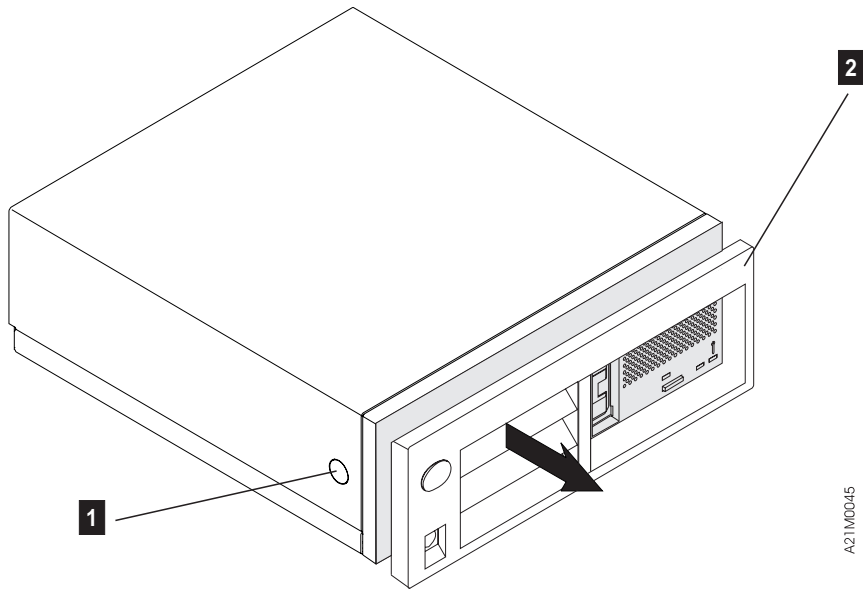

Figure 12. Removing the Front Cover from Model B00
- a. See Figure 12 on page 26. Remove front cover of the unit **2** by depressing the tabs **1** on each side of the enclosure and carefully pulling the front cover away from the subsystem.
Note: There is a corresponding tab on the opposite side of the chassis to the one show as **1** in Figure 12.